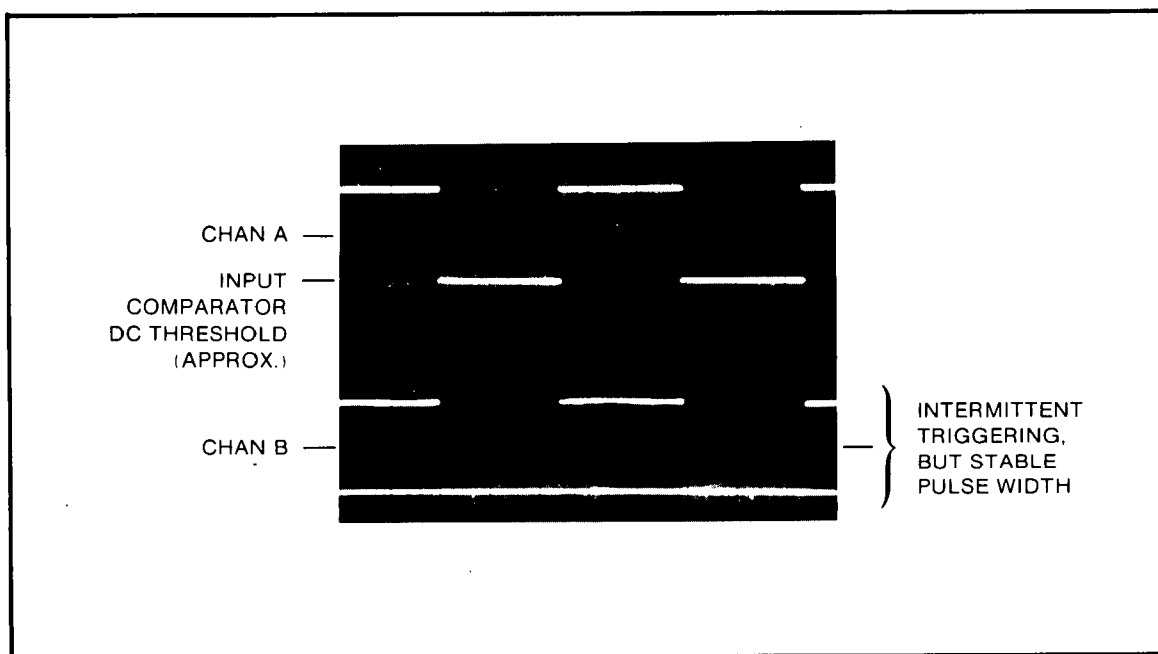
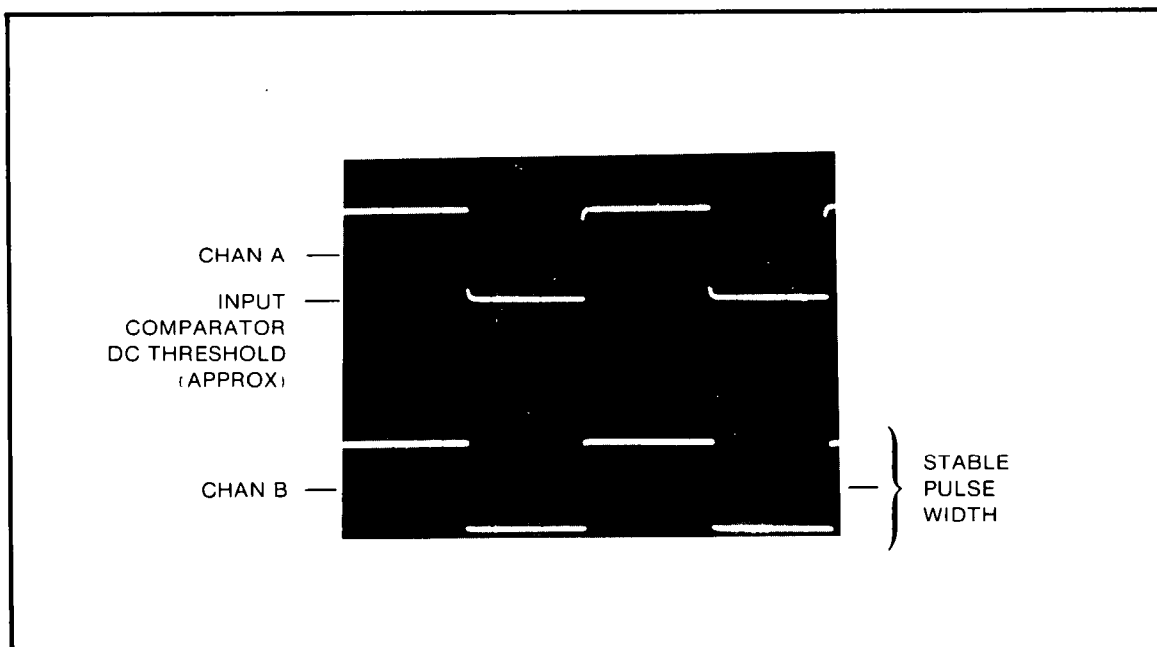

Figure 5-4. Proper Compensation (Intermittent)
Figure 5-5. Proper Compensation (Stable)
- e. Using a nonmetallic screwdriver, adjust A1C7 for a stable, symmetrical square wave. Readjust the OFFSET VERNIER slightly positive again, until the trailing edge jitter reappears. Readjust A1C7. Repeat this routine until the capacitor (C7) is adjusted such that the comparator output on Channel B "snaps-in", displaying a stable symmetrical square wave as early as possible, while varying the input OFFSET VERNIER. When properly adjusted, the Channel B display may be intermittent, but the pulse width should not vary. That is, the comparator may be triggering at times, and not triggering at other times, producing an unstable display (see Figure 5-4), but there should be no trailing edge jitter and the pulse width should never be less than the 50-50 duty cycle shown in Figure 5-5.